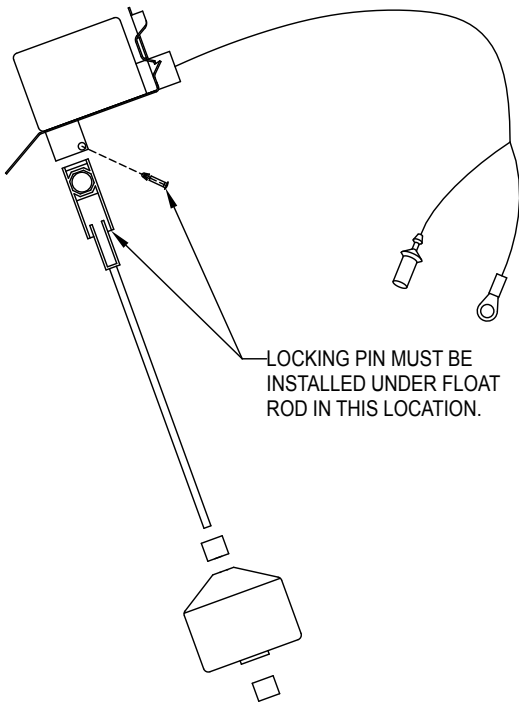

FIGURE 5
- Check 15 amp fuse in line from pump to switch (see fig. 5). If fuse is blown, replace with 15 amp Littelfuse type 3AG, series 311.
10. Assemble the float assembly per figure 5.